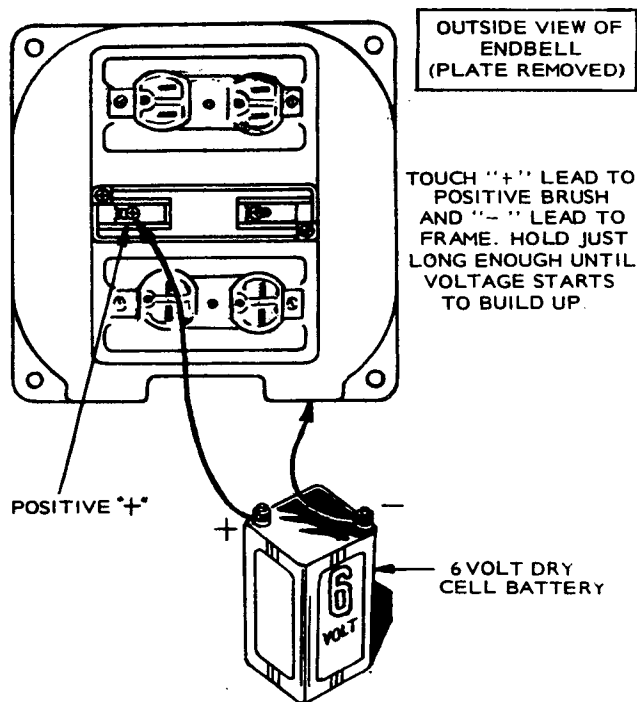

FIGURE 8. FLASHING THE FIELD
2. Connect a 6 volt lantern battery with leads as shown in Figure 8.